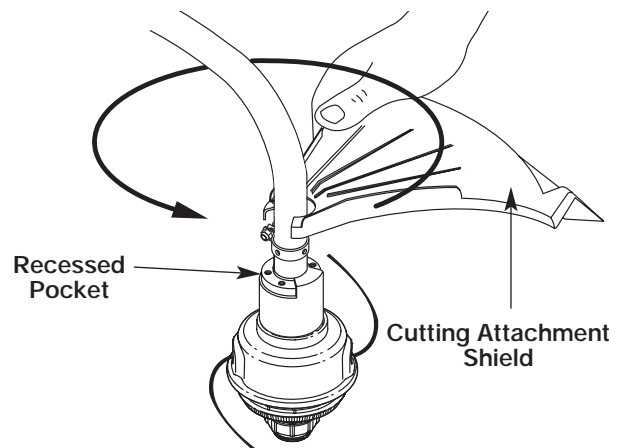

Fig. 4
2. Push the cutting attachment shield down to the top of the cutting attachment assembly and then rotate the cutting attachment shield until the screw holes align and the guard fits into the recessed pocket (Fig. 4).